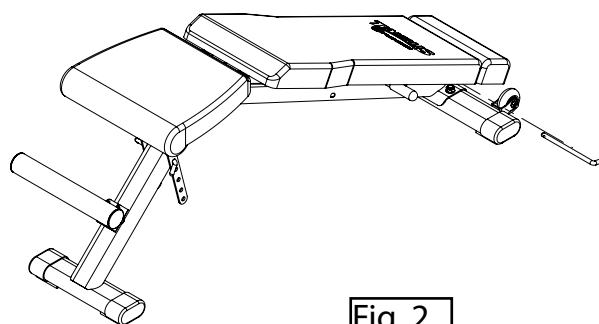

Fig. 2
2. Fold the back cushion (E) back (Fig. 2).
3. Insert the L-pin behind the back cushion (E) (Fig. 2).